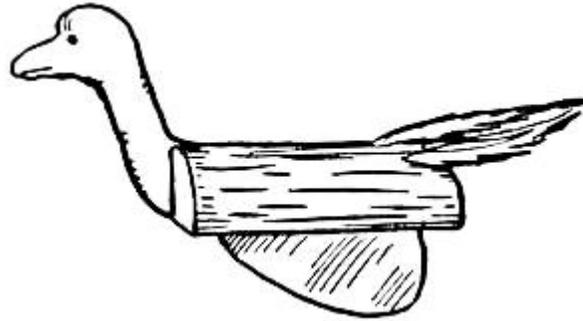

FIG. 402.—The Duck.
**A Duck** is shown in Fig. 402. The body for this consists of a cork split in half, the head is cut out of a piece of cigar-box, and a small tin keel is fastened to the centre of the under side of the body. A few chicken feathers will form the tail. Glue, of course, cannot be used upon the duck, as it would soften in water, so the pieces composing it will have to be fastened together by means of pins. Other water toys, such as